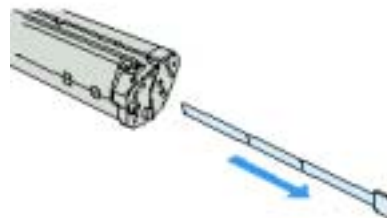

Figure 5. Pulling The Tab And Removing The Tape
4. Pull the tab until all the tape is removed from the cartridge as shown in Figure 5.